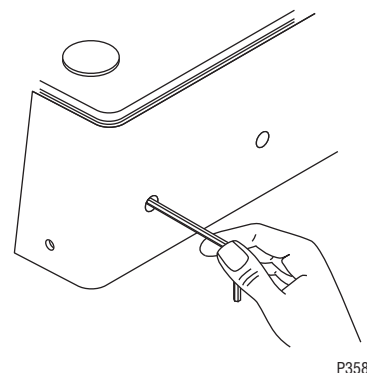

FIG 17 Adjusting Water Flow Using 1/4" allen wrench
5. Adjust the water flow rate Fig 17, (clockwise to increase flow rate; counterclockwise to decrease flow rate) to the corresponding product mix ratio. Chart below provides general brix instructions.